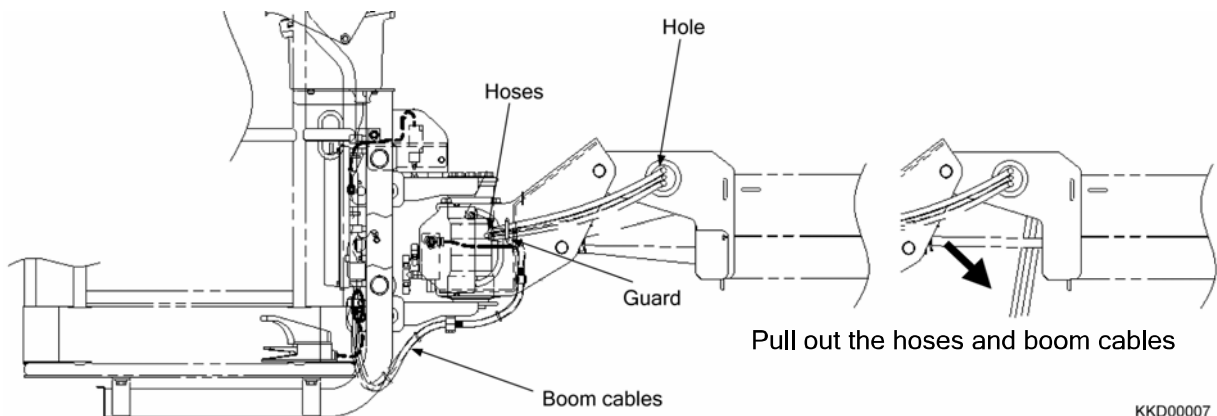

Fig. 2-36
- 11) Cut cable ties fixing the boom cables and then pull out the hoses and boom cables from the guard and hole at the top of the 3rd boom section. (Fig. 2-36)